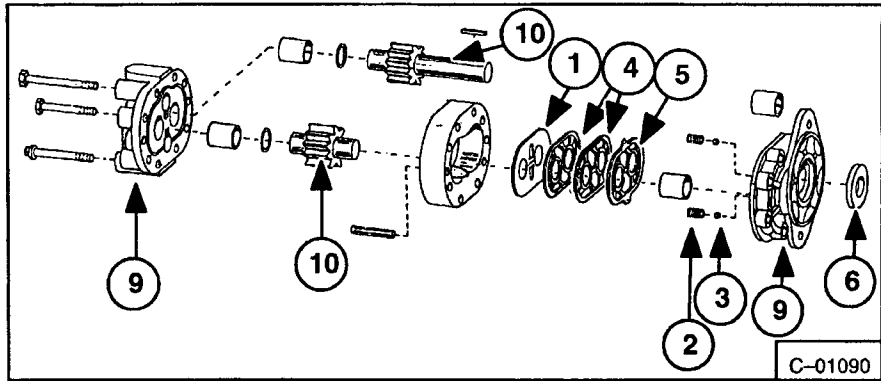

Fig. 4-38 Hydraulic Pump Breakdown (Cessna)
1. Remove key from pump drive shaft (Fig. 4-38).
5. Remove these items (Fig. 4-38) from front plate of pump.
- b. Springs (2)\* Steel Balls (2) (Item 2 & 3)
- c. Gaskets (2) (Item 4)